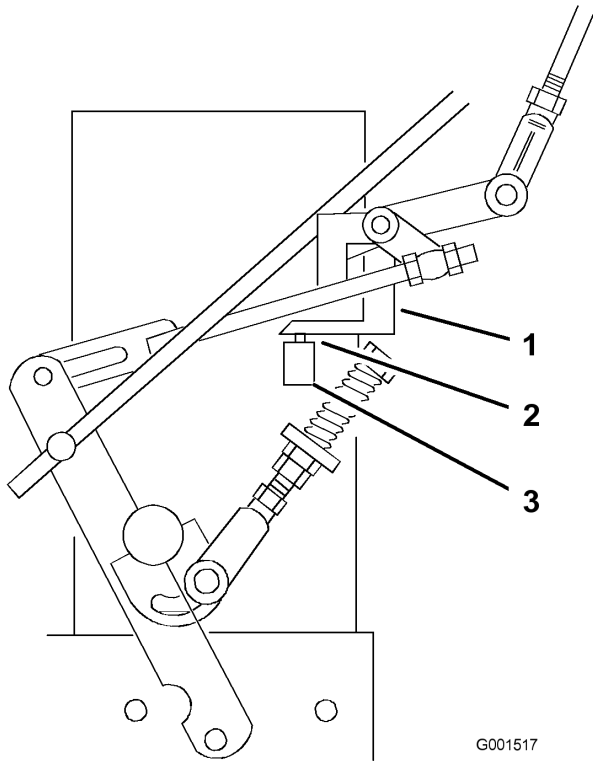

Figure 34
7. Check to make sure the safety switch is depressed and there is a 5/16 inch (8 mm) space between the actuating tab and the switch. (Figure 34).
8. If needed, adjust switch location to create the 5/16 inch (8 mm) space (Figure 34).